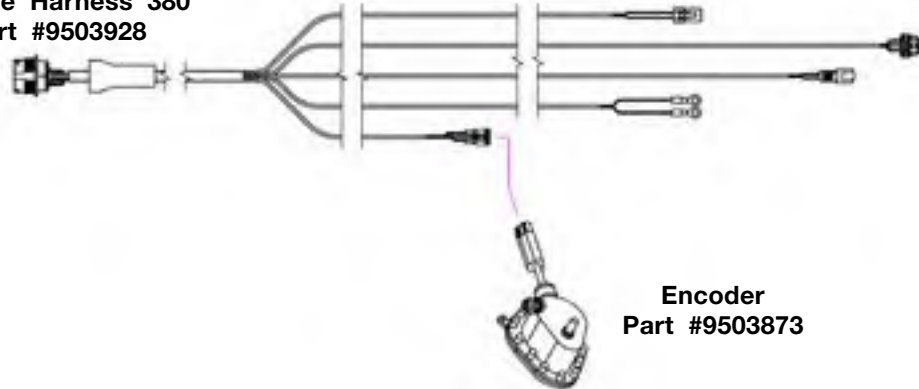

FIG. 2-50
1. Attach the baseline harness (9503928) to the encoder (9503873). (FIG. 2-50)